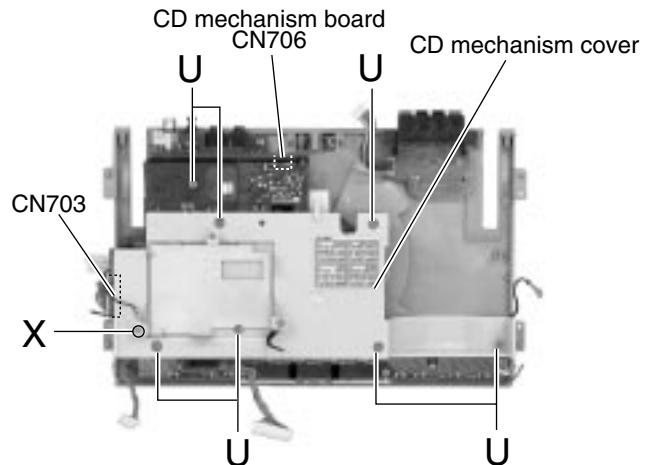

Fig.34
- Unjoint the six joints (f) with the VCD shield (L) and the VCD shield (U). Remove the VCD shield (L) in the direction of the arrow.
- Remove the VCD CB assembly from the VCD shield (L).
■Removing the CD mechanism board / mechanism assembly (See Fig.34 to 38)